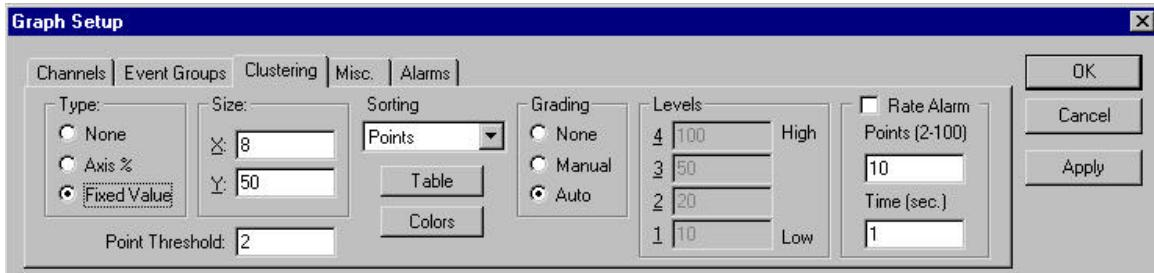

Figure 67. Clustering setup menu (at top of Graph Setup Menu)
Step 2. Next we must configure the Clustering function. We do this in the Graph Setup menu by selecting the right tab labeled "Clustering" at the top of the Graph Setup menu (see figure 67).